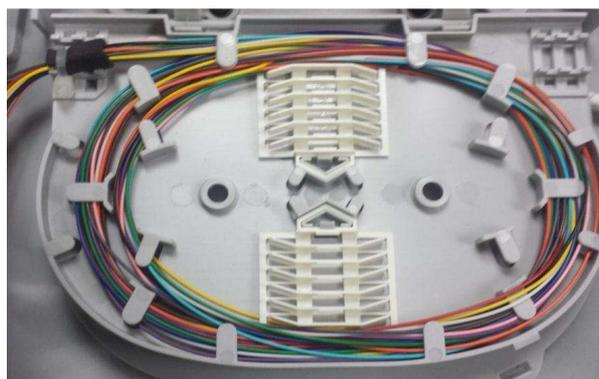

Figure 34
1.7.5 Take the fibers to the splice tray. Use the foam tape to protect the fibers and ensure the fixation of the fibers in the splice tray (Fig.34);